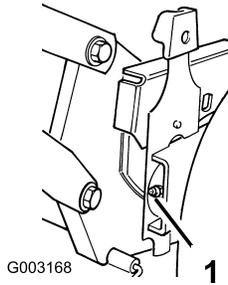

Figure 22
2. Wipe the grease fittings with a clean rag (Figure 22).